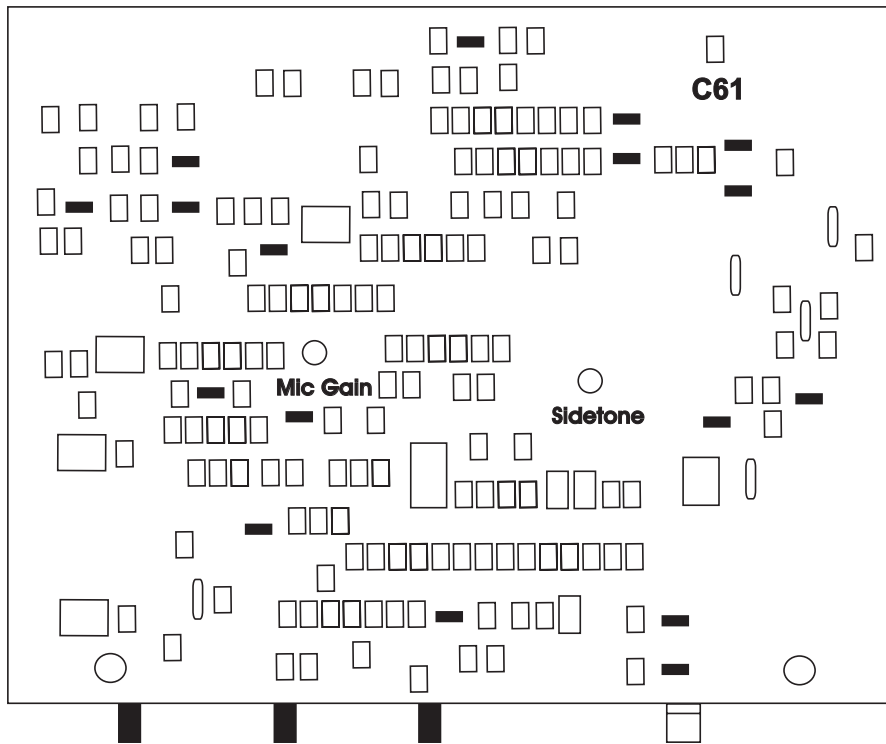

Figure 3. Printed Circuit Board
2. Refer to Figure 3 and locate C61 on the underside of the printed circuit board.